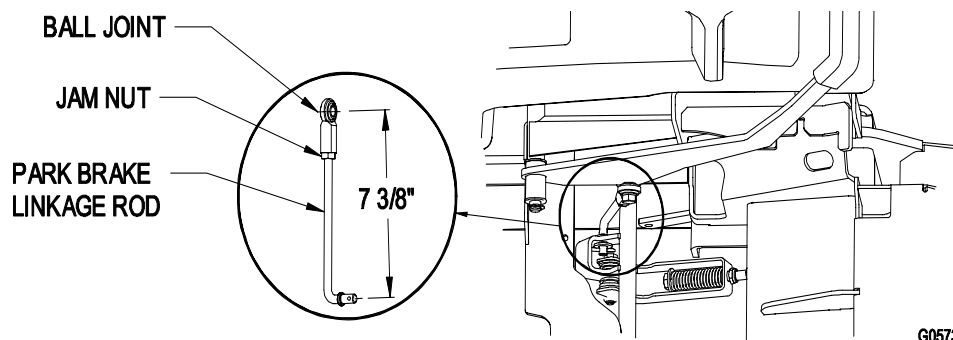

FIGURE 8
- e) If park brake does not fully disengage when the lever is disengaged check the brake rod linkage assembly. The assembly should measure 7 3/8" (18.7 cm) from the center of the ball joint to the center of the lower end of the linkage rod. See Figure 8.